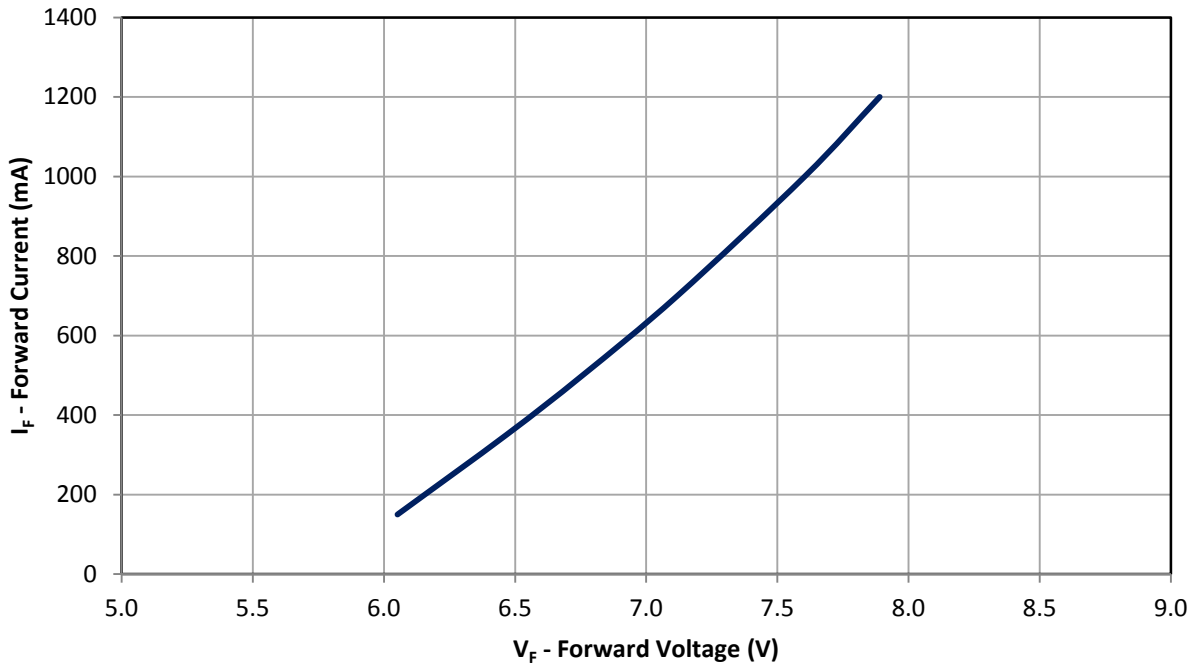

Figure 10: Typical forward current vs. forward voltage @ Tc = 25°C.
- Maximum DC forward current (per die) is determined by the overall thermal resistance and ambient temperature. Follow the curves in Figure 10 for current derating.